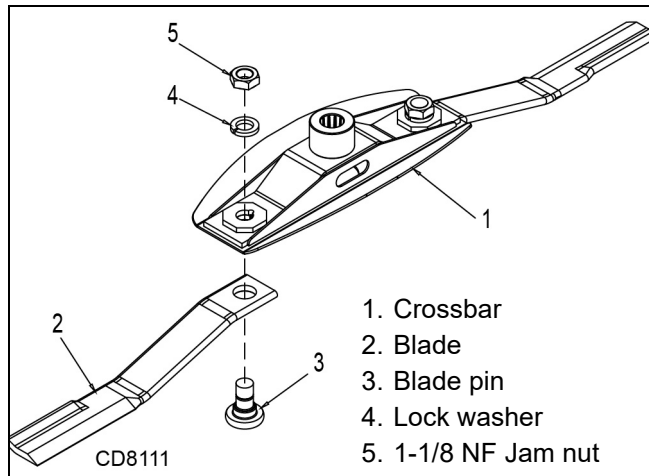

Figure 16. Blade Removal
2. To make crossbar removal easier, remove blades as shown in Figure 16.